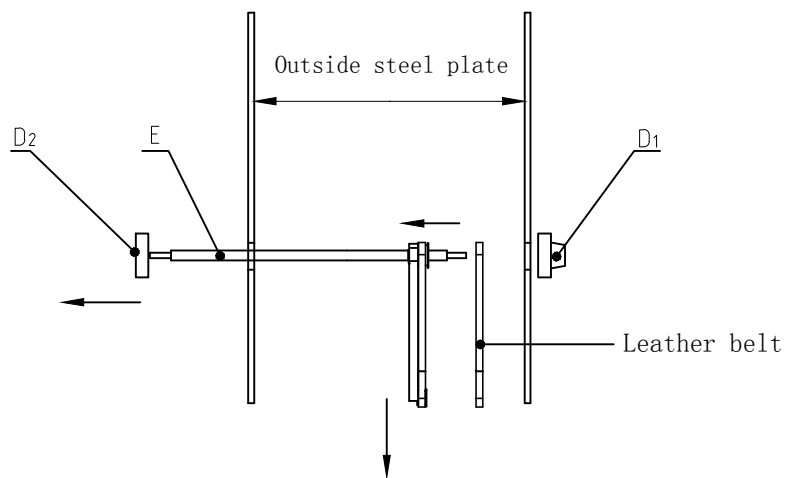

Fig 3-2
- ② Loosen bearing D2, fetch out the shaft level E, loosen the tightening screw F (Fig.2-1-F). Take the belt out and replace it, see Fig. 3-2. Then reset the position of each part as original. And fasten them.